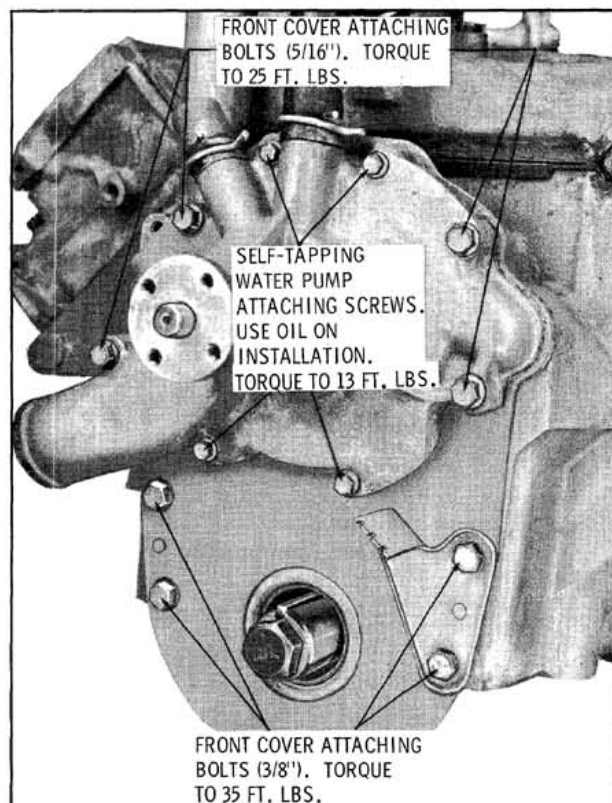

Fig. 3-123 Engine Front Cover Bolts
4. Remove water pump to front cover attaching bolts. (Fig. 3-123)